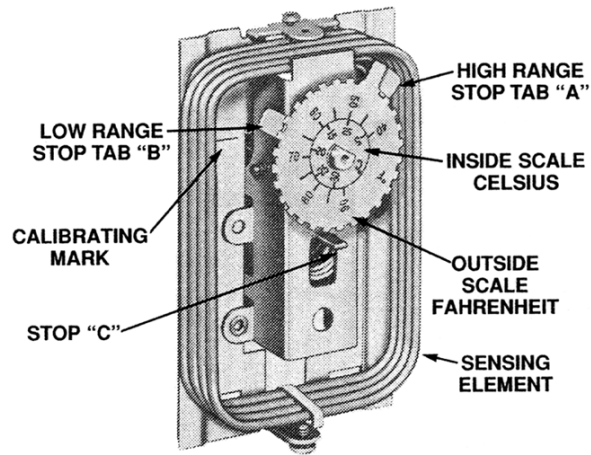

Fig. 4 -- Dial stops are shown above.
4. While holding the dial firmly in position, depress tab "A," Fig. 4, and rotate clockwise until the tab is against stop "C."
1. Follow the same steps as outlined under "High Range Stop" but rotate tab "B," Fig. 4, counterclockwise.